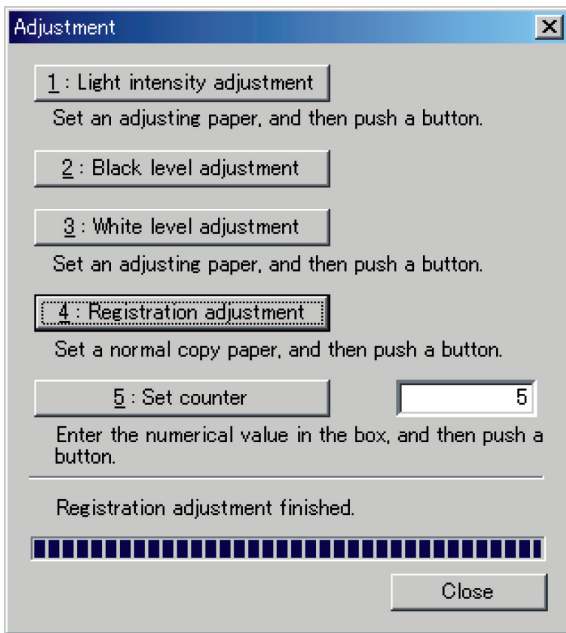

Fig. 5-10
- 5) The whole process takes about twenty seconds. When it's finished, "Registration adjustment finished" appears. (See Fig. 5-10)